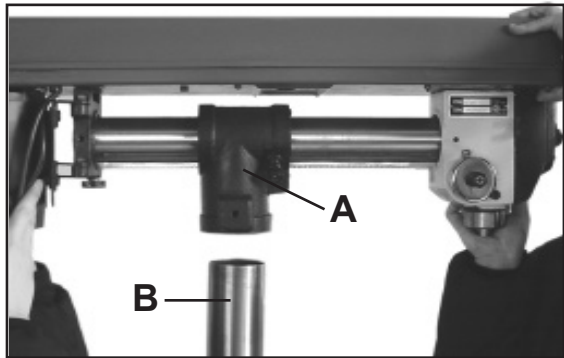

Figure 4
2. Place the drill press head (A-Fig. 4) onto the column (B-Fig. 4) as far as it will go.